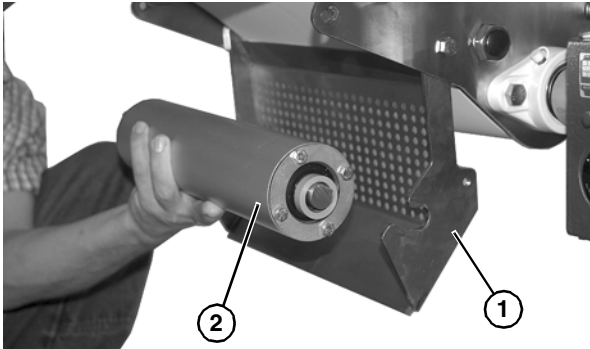

Figure 84
5. Swing down tension guard assembly (**Figure 84, item 1**). Remove tensioner pulley (**Figure 84, item 2**).